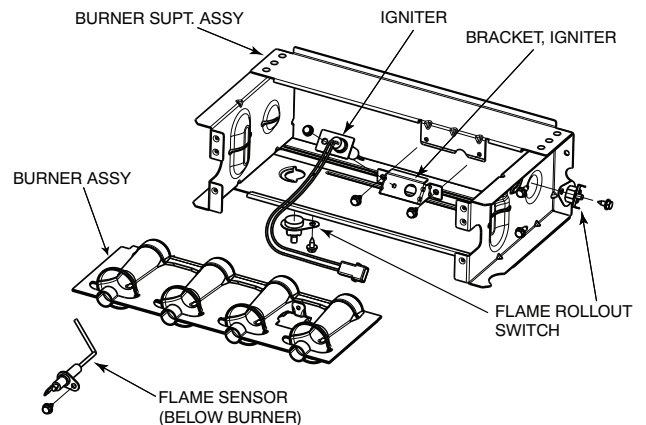

Fig. 22 - Burner Assembly
5. Slide one-piece burner assembly out of slots on sides of burner box. See Fig. 22.